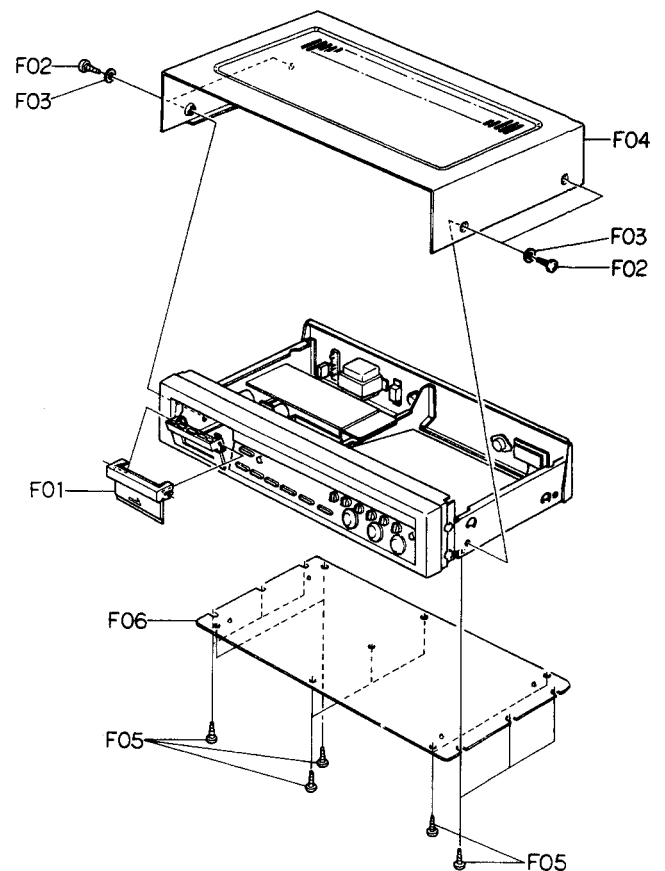

Fig. 3.1
Refer to Fig. 3.1.
- (1) Refer to Fig. 3.1. Remove Top Cover Ass'y and Bottom Cover Ass'y referring to items 3.2 and 3.3.
- (2) Remove F01 (VR Knobs) by pushing with a screwdriver or similar tools from the inside of the N-582.
- (3) Remove F02 (Switch Knobs) and F03, then disassemble F04 (Front Panel Ass'y including 2 connectors).
- (2) Remove F01, F02 and F03, then disassemble F04 (Rear Panel Ass'y).
- (2) Remove F05, F06 and F07, then disassemble F08 (Power Transformer).